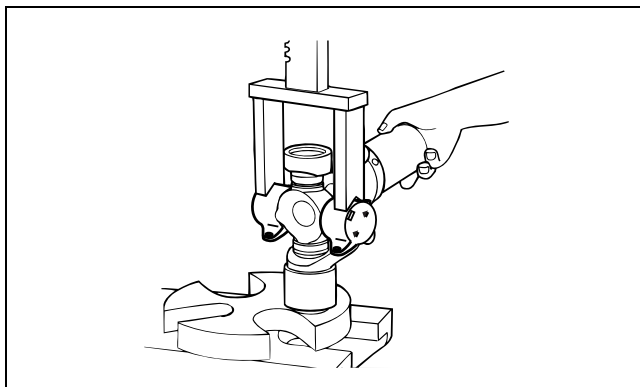

Figure 4.8
3. Rotate the shaft 180 degrees. Repeat the procedure for the opposite side of the universal joint. Figure 4.8.